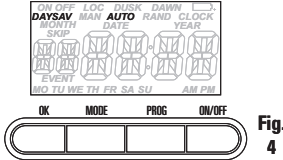

Fig. 4
- DAYS** and **AUTO** will show in the mode display area (Fig. 4). The timer will automatically adjust the clock for Daylight Saving Time (DST) when set to **AUTO** here. If you do not want the timer to do this, turn the selector knob until **MAN** shows.